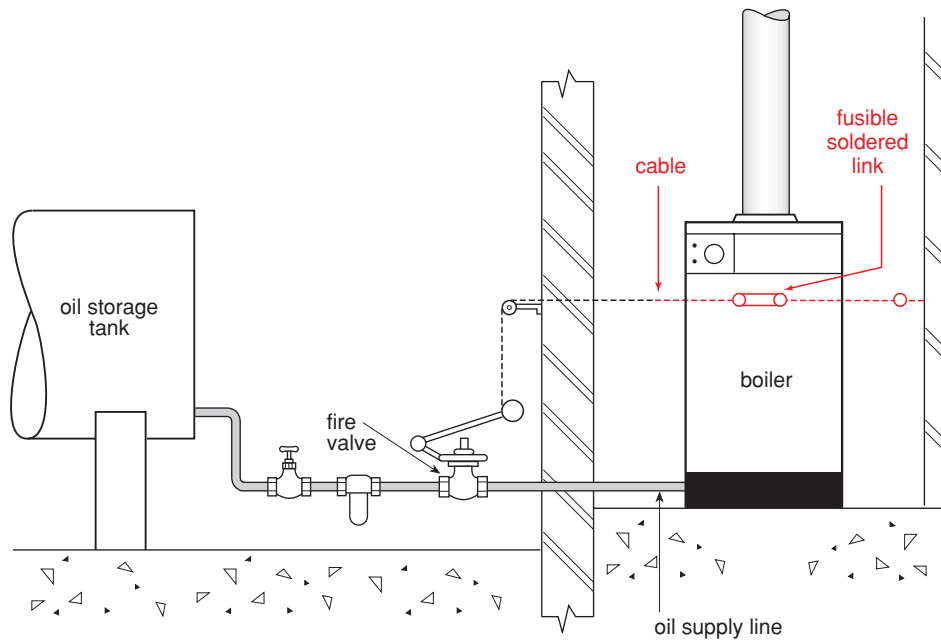

Figure 21
- (52) Complete the illustration of the 'fusible link' type fire valve as shown in Figure 21, and explain its operation. (Page 253.)